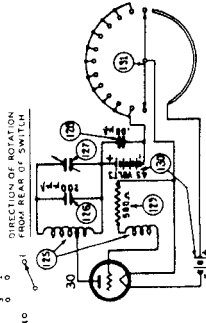

FIG. 3. WIRELESS REMOTE CONTROL UNIT SCHEMATIC DIAGRAM.
2. Now bring the wireless remote control unit close to the receiver. Using a padding wrench, Philco Part No. 316, tune the compensator (127) Fig. 3, located on the bottom of the remote control unit until a maximum voltage reading is indicated on the vacuum tube voltmeter. When tuning this compensator, it should be done very slowly so as not to pass over the frequency to which the control amplifier is tuned.
3. After adjusting the compensator with the sensitivity control on the receiver in the "extreme" position, the remote control unit is adjusted for maximum sensitivity by setting the sensitivity control in the "near" position and placing the remote control unit a few feet away from the receiver. The compensator (127) Fig. 3, is then adjusted again for maximum voltage reading of the vacuum tube voltmeter.